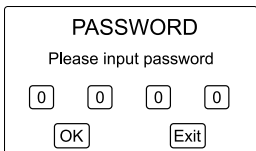
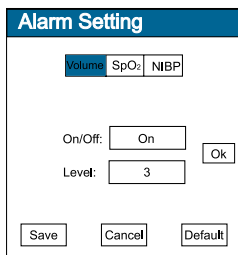

Fig.3.5
Fig.3.6
2. Then, you need to enter the password “2222” in the popup box (Fig. 3.5) to enter the submenu (Fig.3.6).